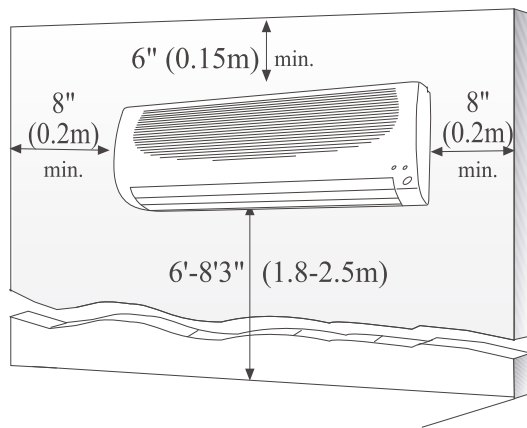

Fig. 2 — Indoor Unit Clearances
2. Position the mounting bracket on the wall and level it using a spirit level (see Fig. 2 for minimum required clearance distances).